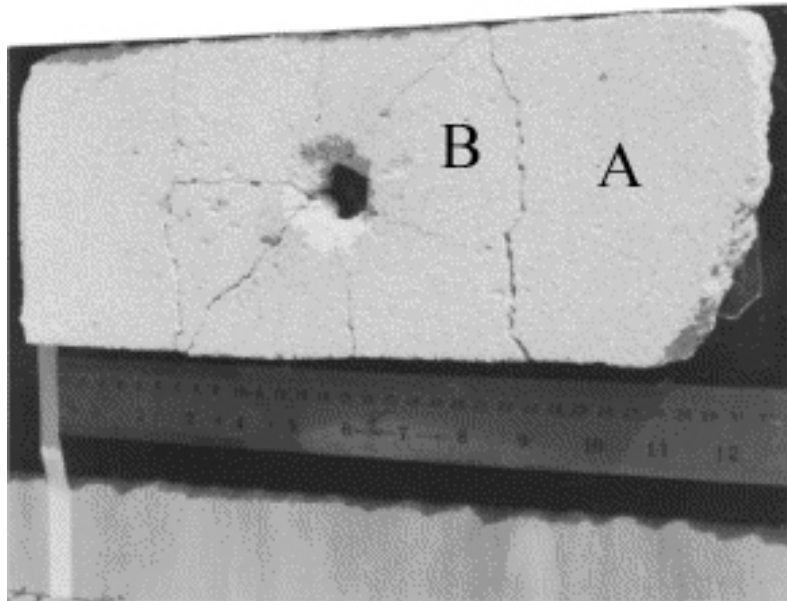

Fig. Q3
- (1) On a separate sketch show which of the cracks in the image are spalling cracks. (3 marks)
- (2) For debris A and B, which one drops first? Explain the reason. (3 marks)
- (3) Describe the formation of the spalling cracks in Fig. Q3. (5 marks)
- (4) Describe one applications that use the knowledge of spalling and fragmentation. (4 marks)
- (5) The Young's modulus of the concrete is around 30GPa/m^3 , and the density is around 2000kg/m^3 , estimate the order of sound speed in concrete. Is shock wave speed higher or lower compared with sound speed? (5 marks)